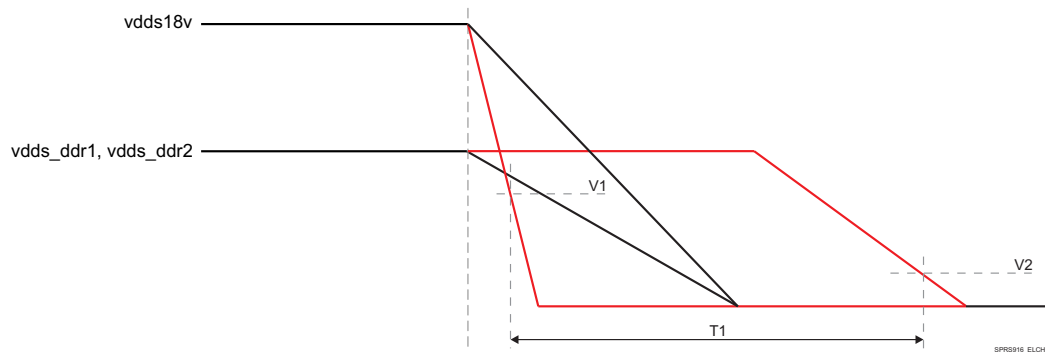

Figure 5-9. vdds18v and vdds_dds* Discharge Relationship⁽¹⁾
- must satisfy the vdds18v and vdds_dds* Discharge Relationship (see Figure 5-9) if vdds_dds* discharge rate is slower than vdds18v.
If vdds18v and vdds_dds* are disabled at the same time due to a loss of input power event or if vdds_dds* discharges more slowly than vdds18v, analysis has shown no reliability impacts when the elapsed time period beginning with vdds18v dropping below 1.0 V and ending with vdds_dds* dropping below 0.6 V is less than 10 ms (Figure 5-9).